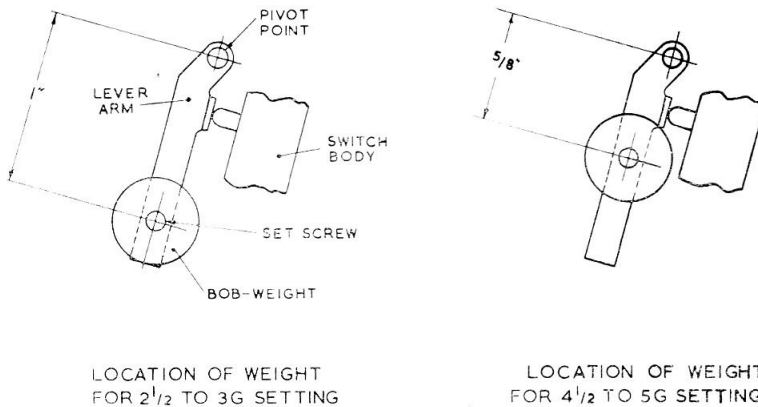

Fig. 3. Inertia switch 'G' settings
5. The test switch is a single pole toggle switch and is connected in parallel with the inertia switch. The inertia switch consists of a bob-weight suspended on a lever arm actuating on a microswitch. The position of the bob-weight on the lever arm is adjustable (*fig. 3*) and may be varied to operate the microswitch at 'G' values of from  $2\frac{1}{2}$  to 5 'G'.
loose, it may be reset to the dimensions given in fig. 3 using a pair of dividers setting one point at the centre of the pivot point and the other at the centre of the bob-weight screw. Ensure that the lever arm moves freely on its pivot.